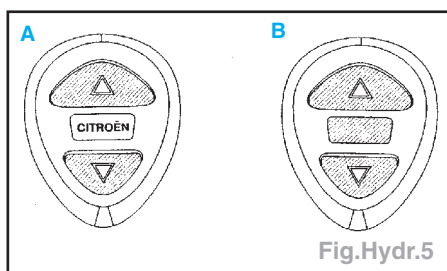

Fig.Hydr.5
- Identification (Fig.Hydr.5) :